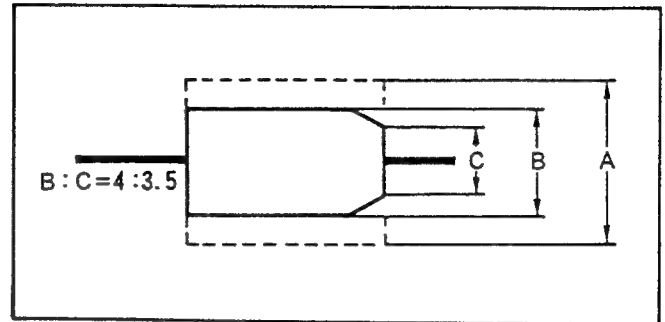

Fig. II-81
- (5) Slightly turn the No. 6 guide clockwise so that $B:C = 4:3.5$. (See Fig. II-81.)